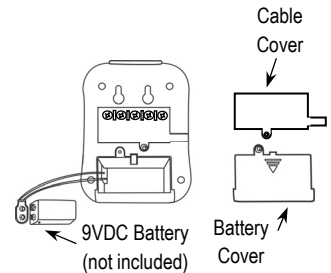

Fig. 2
3. Remove the cable cover and battery cover from the back of the auto dialer (Fig. 2).